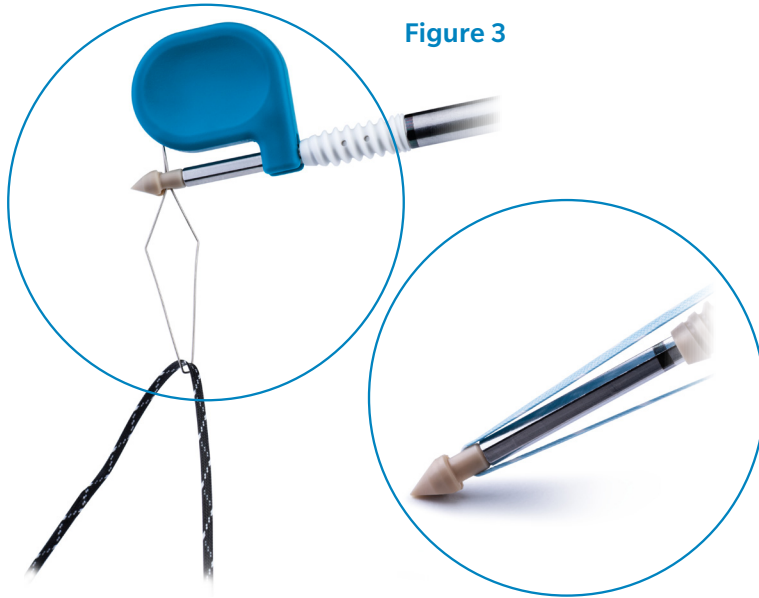

Figure 3
1. Retrieve one suture and/or tape from each medial row anchor and load into the lateral Genie or GenieSP Anchor through the eyelet using the kite tab in Figure 3.